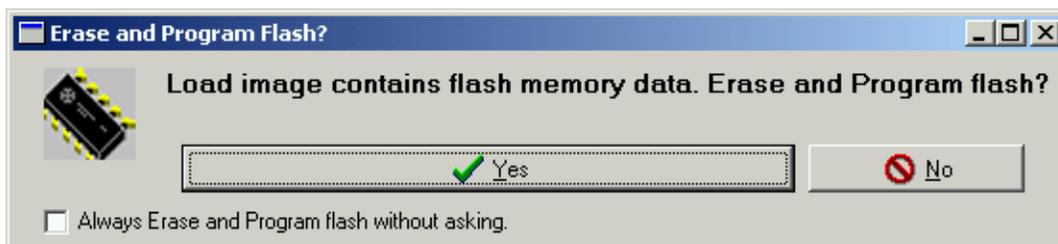

Figure 28. Programmer Erase and Program FLASH Window
34. Click Yes in the Erase and Program FLASH window. (Figure 28)